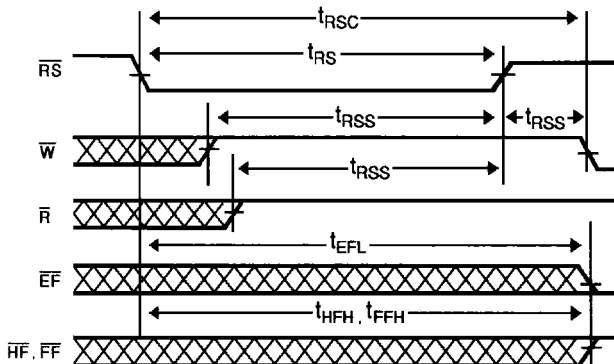

Figure 1 : Reset.
power-up before a write operation can be enabled. Both the Read Enable ( $\bar{R}$ ) and Write Enable ( $\bar{W}$ ) inputs must be in the high state during the period shown in figure 1 (i.e.  $t_{RSS}$  before the rising edge of  $\bar{RS}$ ) and should not change until  $t_{RSH}$  after the rising edge of  $\bar{RS}$ . The Half-Full Flag (HF) will be reset to high after Reset ( $\bar{RS}$ ).